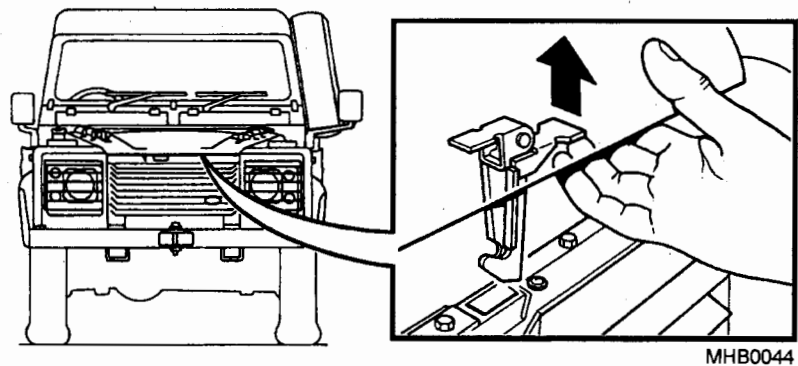

Fig 24 Bonnet safety catch
42.2 To open, insert the hand under the bonnet and locate the safety catch on the left hand side of the vehicle (Fig 24), press upwards, this releases the safety catch and lifts the bonnet clear.